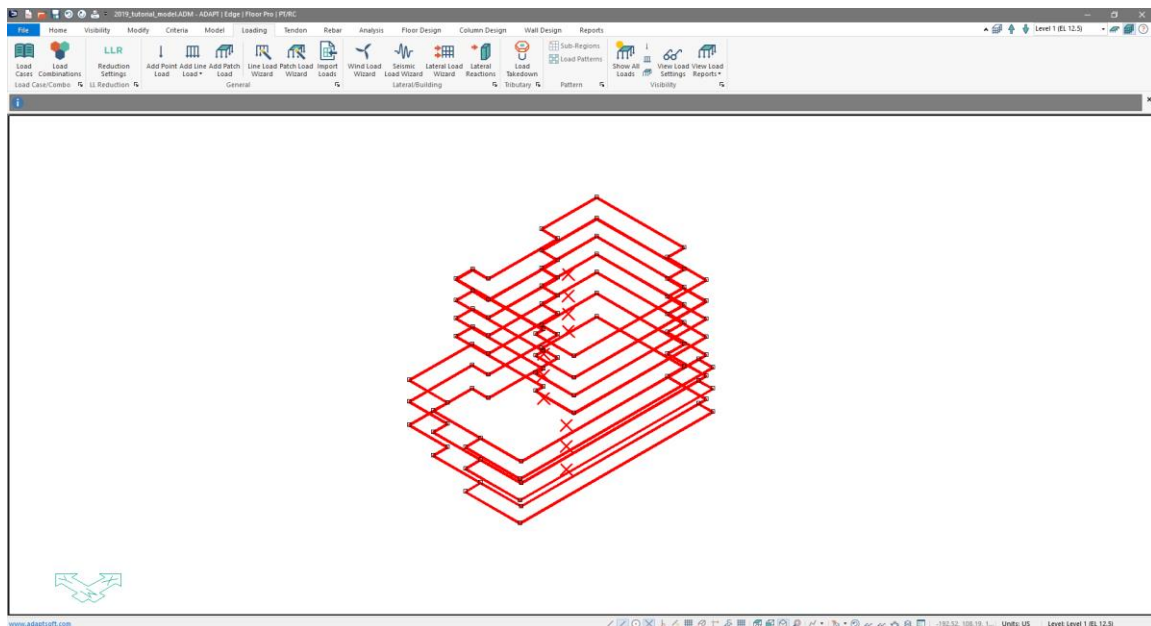

Figure 8-1
- Drag and select the slabs of the model, which should all be visible. The user should see modeled slab regions highlighted in red to denote they have been selected as shown in **FIGURE 8-1** below.